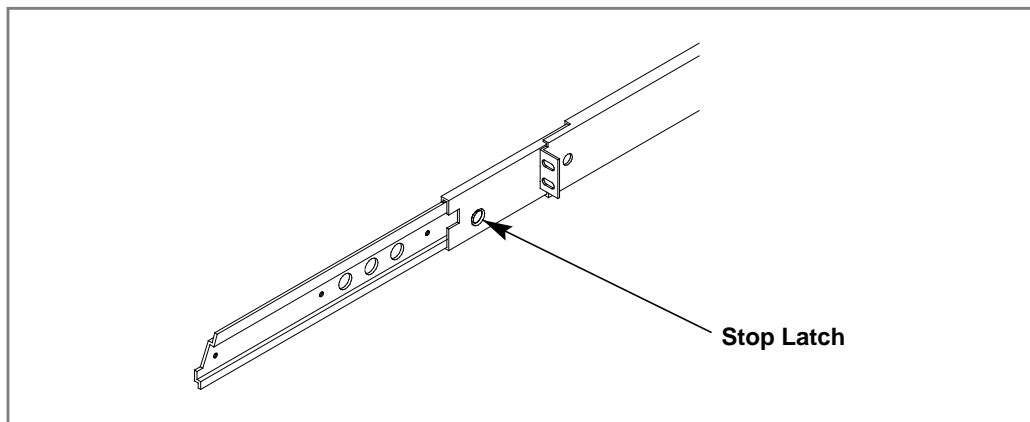

Figure 3-10. Rack Slide Stop Latch
1. Pull the slide-out track section to the fully extended position. See Figure 3-10.